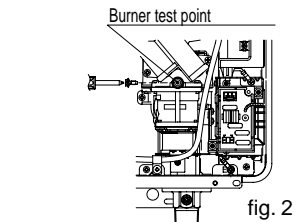

fig. 2
4. Remove the face plate from the Remote Control, using a screw driver. (fig 2)
4. **Ensure the position of the terminals for controls** shown on the Printed Circuit Board **COVER**. Connect the spade connectors to the terminals on the P.C.B. (fig. 2) Polarity is not important. Either wire colour can be connected together terminal.
5. **Ensure the position of the terminals for controls** shown on the Printed Circuit Board **COVER**. Connect the 4 spade connectors to the terminals on the P.C.B. (fig. 2) Polarity is not important. Either wire colour can be connected to either terminal.
5. Attach pressure gauge to burner test point, located on the gas control. (fig. 2)